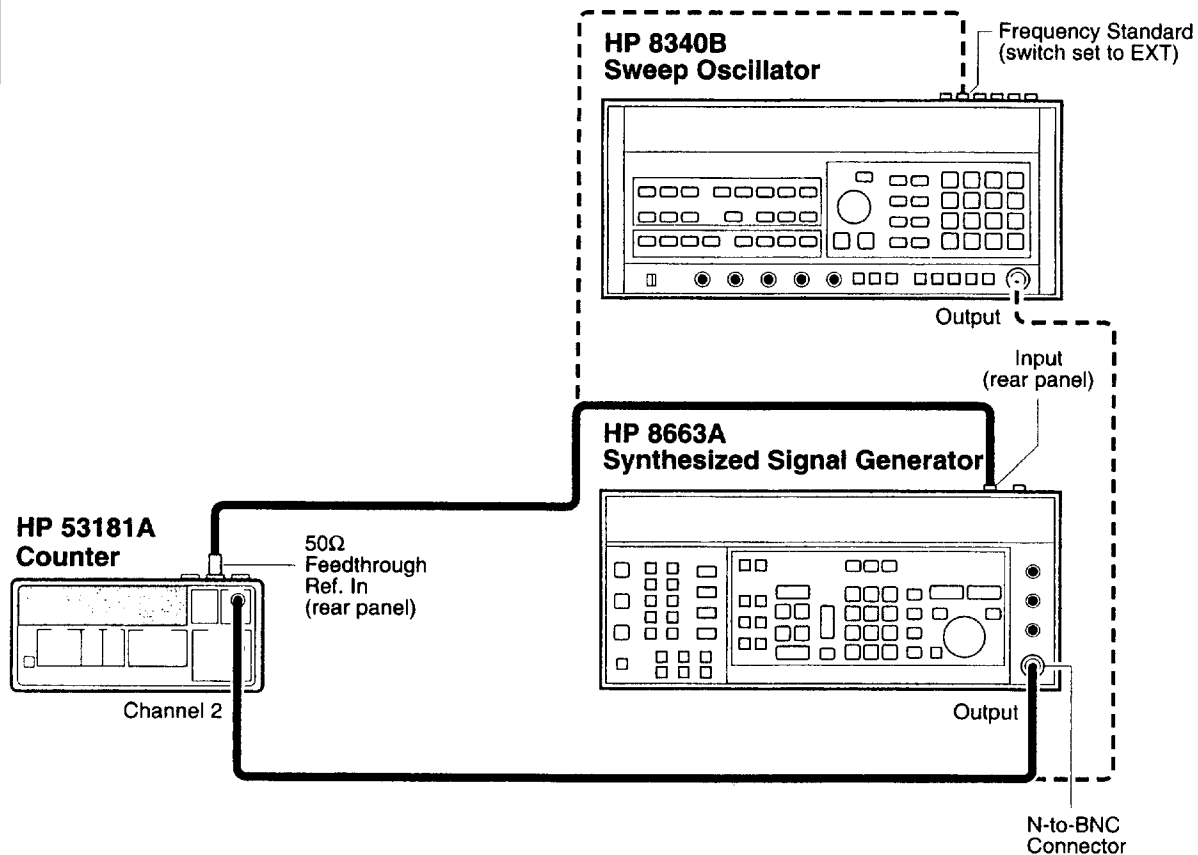

Figure 1-15. Option 015/030/050/124 Channel 2 Frequency Accuracy Test Setup
- 1 Connect equipment as shown in Figure 1-15.
- 1 Connect equipment as shown in Figure 1-15.**
- 5 Disconnect the HP 8663A output from Channel 2 of the Counter, and connect the HP 8340B Sweep Oscillator output to Channel 2 of the Counter as shown in Figure 1-15.**